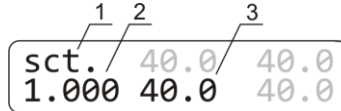

Figure 2. Display in calibration mode: 1. Calibration mode indicator; 2. Calibration coefficient; 3. Temperature with current coefficient
- 6.2 To change the calibration coefficient, hold the **TIME RUN/STOP** key pressed for more than 8 s to activate calibration mode. The calibration coefficient appears on the display (fig. 2).
Note. Values marked in grey on figures 2 and 3 are not used in calibration and are meant for service engineers.
- 6.3 **Restoring factory settings.** Set 1.000 value using the **▲** and **▼ T, °C** keys as shown on fig. 2/1 to restore the factory settings. Press the **RPM RUN/STOP** key once to save the changes and exit the calibration mode.
- 6.4.5 Hold the **TIME RUN/STOP** key pressed for more than 8 s to activate calibration mode (fig. 2).